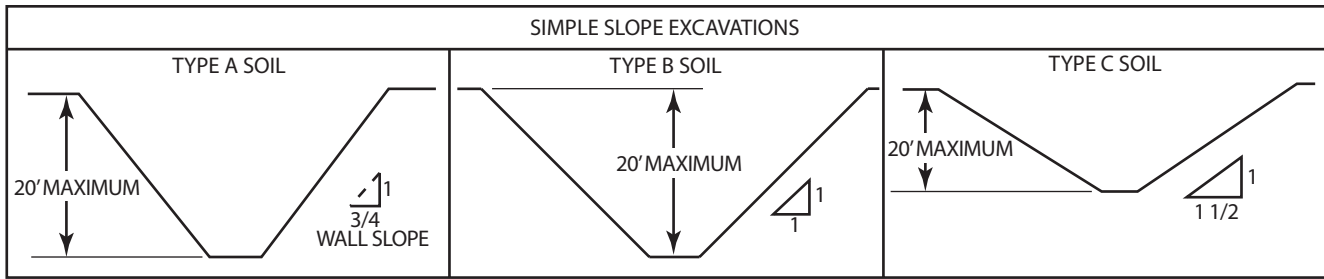

FIGURE 2-13 Sloping for different types of soil.
- **Sloping**—The angle of the sloped wall of an excavation is determined by the soil type, **Figure 2-13**. Less stable soil types and layered soil types require a much shallower slope angle than the more stable soil types.